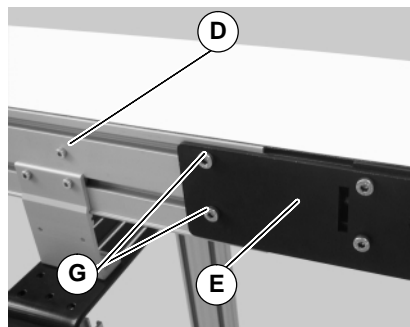
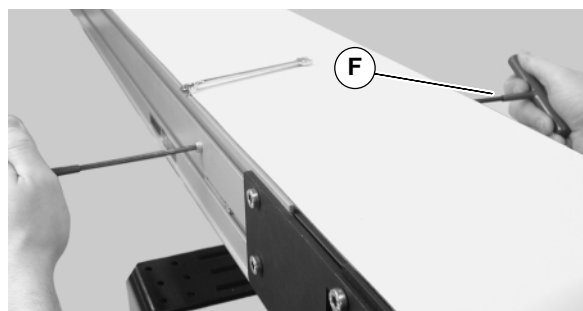
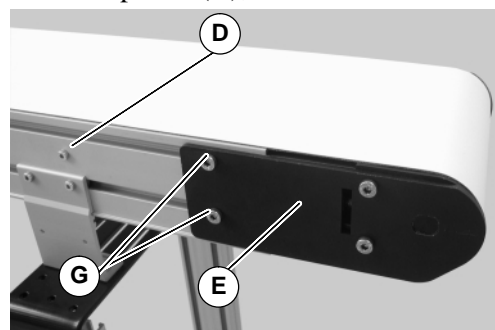
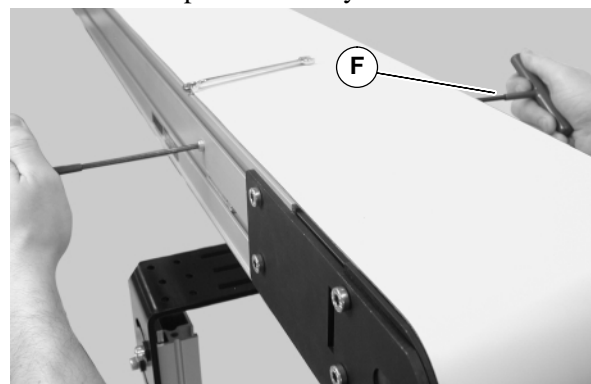

Figure 8
Figure 9
Figure 28
Figure 29
8. On tension end of the conveyor, identified by the pinion locking screw (D of Figure 8), loosen the two tail clamp bolts (G), on both sides of conveyor.
9. With 5mm hex wrench, hold pinion torque screw (F of Figure 9). Loosen the pinion locking screw (D of Figure 8) and turn the pinion torque screw (F) to extend head plate assembly.
11. After adjusting proper tensioning, tighten the pinion locking screw (D of Figure 8) to 69 in-lbs (7.8 N-m), and tighten tail clamp bolts (G of Figure 8) on both sides of conveyor to 146 in-lb (16.5 N-m).
13. On tension end of the conveyor, identified by the pinion locking screw (D of Figure 28), loosen the two tail clamp bolts(G), on both sides of conveyor.
14. With 5mm hex wrench, hold pinion torque screw (F of Figure 29). Loosen the pinion locking screw (D of Figure 28) and turn the pinion torque screw(F) to extend head plate assembly.
- 16.** After adjusting proper tensioning, tighten the pinion locking screw (D of Figure 28) to 69 in-lbs (7.8 N-m), and tighten tail clamp bolts (G of Figure 8) on both sides of conveyor to 146 in-lb (16.5 N-m).